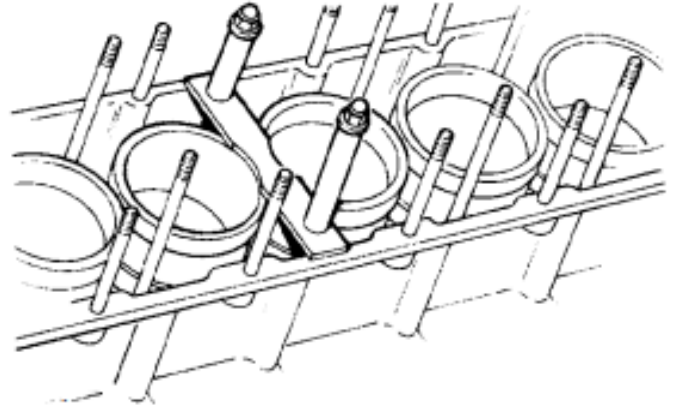

Fig. 1
- ▶ Remove the cylinder sleeve retainers special tool 272915 (fig. 1).